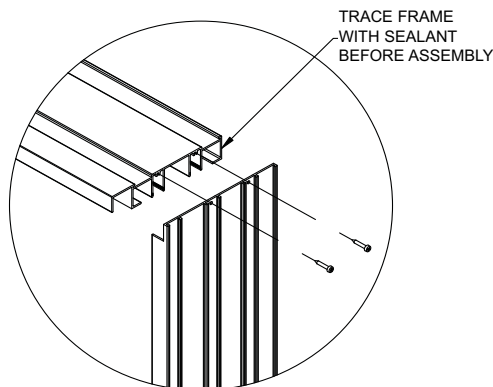

Figure 8
- 1) Gather the main frame header, sill and jamb (if single pocket). Trace the frame head and sill ends with sealant on jamb side of single pocket doors. It is not necessary to trace the frame ends if the unit is a double pocket door. (See Figure 8 and 9)
- 2) Assemble mainframe head, sill, and jamb, on a single pocket door using the supplied # 8 x 1 Philips pan head screws at each assembly hole. (See Figure 8 and 9) This step is not required on double pocket units.